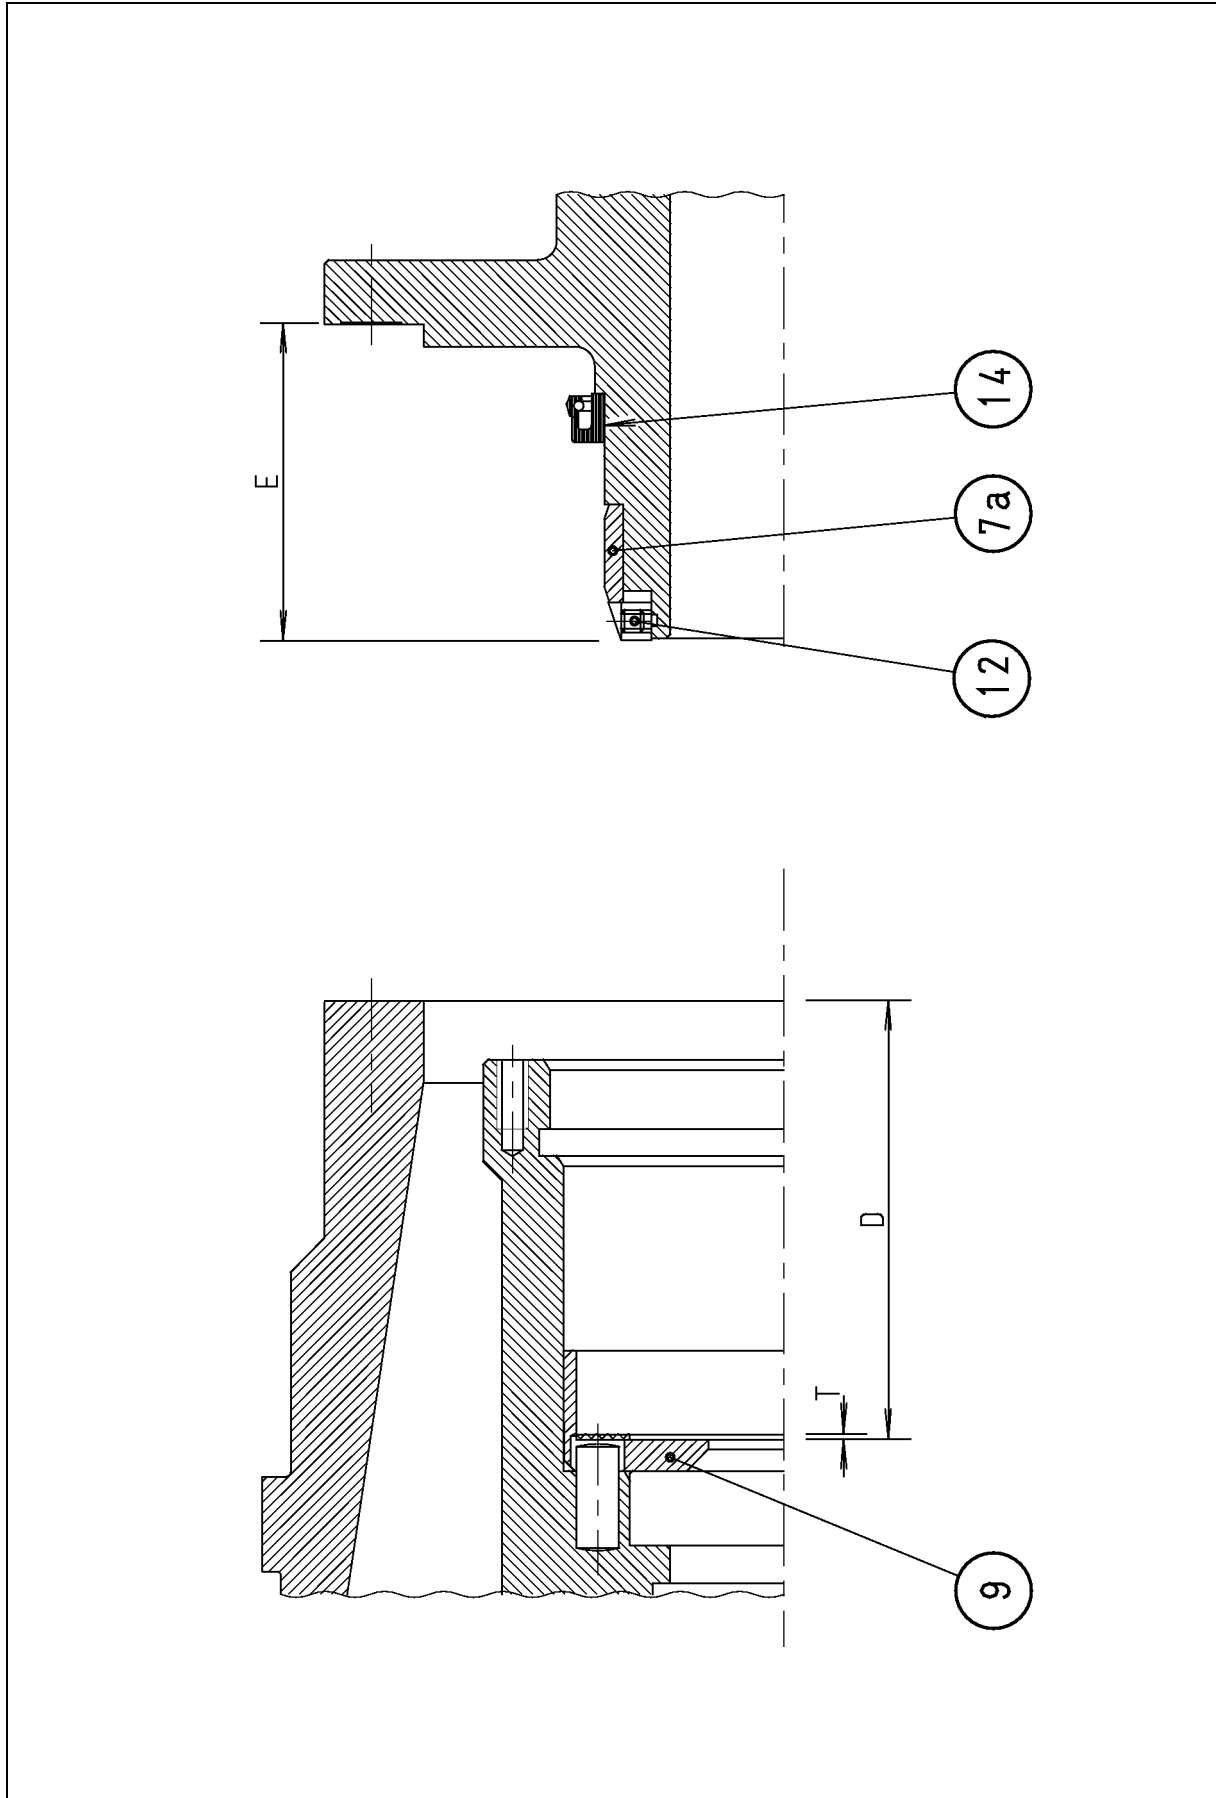

Figure 4.4.5
4.4.4 Adjust Axial Play of Conveyor (Fig. 4.4.5)
Measure the distance "D" between the bowl rim and the bottom of the puller disc as shown in Fig. 4.4.5 and note down the result.
Measure the distance "E" from the ball bearing to the small end hub contact face for the conical bowl section as shown in Fig. 4.4.5 and note down the result.